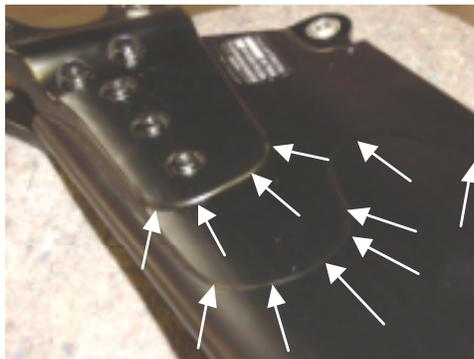

Figure 1 - Inboard Area of Main Rotor Blade - Bottom Side
- 3) In addition, inspect the **Outboard Periphery of the Bottom Doubler and Bottom Root Fitting** for cracks (**Figure 1**). **Lift outboard end of the blade off the droop stop** by the blade outboard end. Use a **10x Magnifying Glass**. Any evidence of cracking scraps the blade.